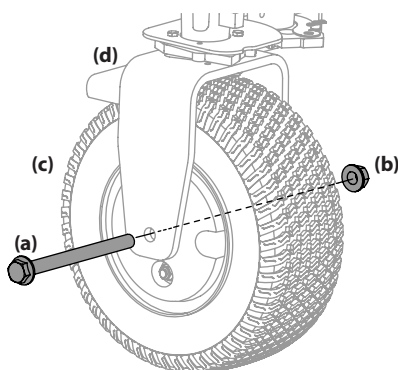

Figure 4-17
1. Remove the hex screw (a) and flange lock nut (b) that secures the front wheel (c) to the yoke assembly (d). See Figure 4-17.